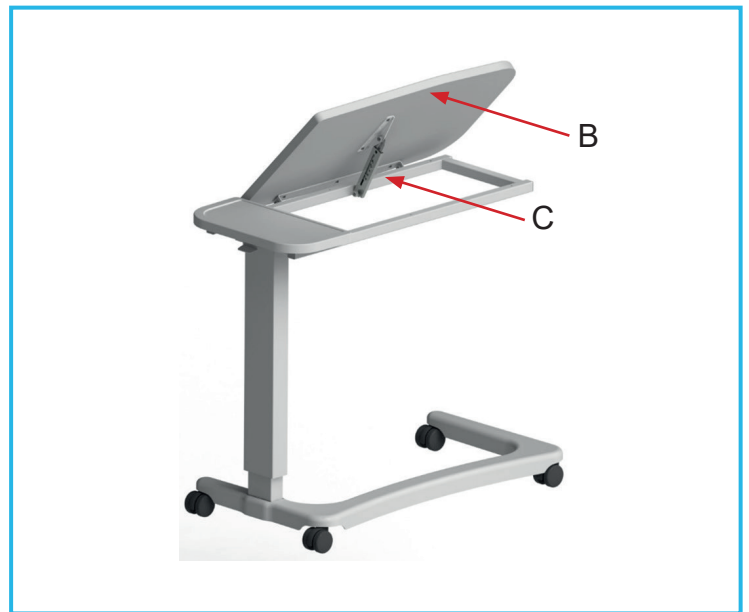

Figure 8
- Hold the edge of the table (B), see Figure 8.
- Lift the table top until the ratchet (C) engages at the position you need.